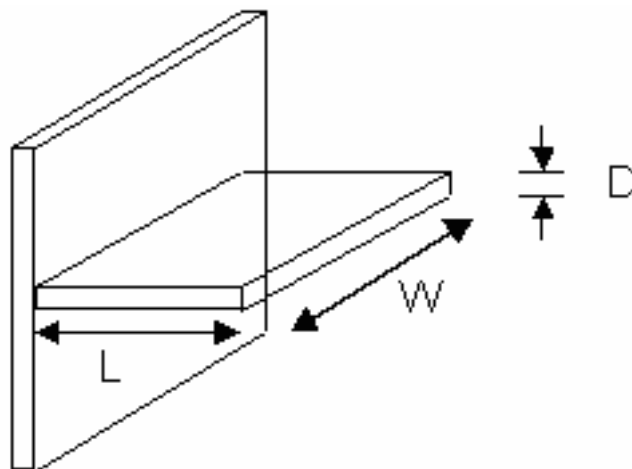

Figure 4b Schematic of finned heat sink
- d. A square Aluminium plate heat sink of dimensions  $50 \times 50\text{mm}$  is being heated to a temperature of  $80^\circ\text{C}$  on one face. Forced convection is maintaining the other face at  $20^\circ\text{C}$ . Assuming a heat transfer coefficient ( $h$ )  $= 110\text{W/m}^2\text{K}$ , calculate the total heat transfer from the heatsink. If a single rectangular fin of dimensions  $L = 50\text{mm}$ ,  $W = 50\text{mm}$  and  $T = 5\text{mm}$  is now attached to the cooled side (see Figure 4b), calculate the total heat transfer from the finned heatsink. Assume the efficiency of the heat-sink is  $0.8$